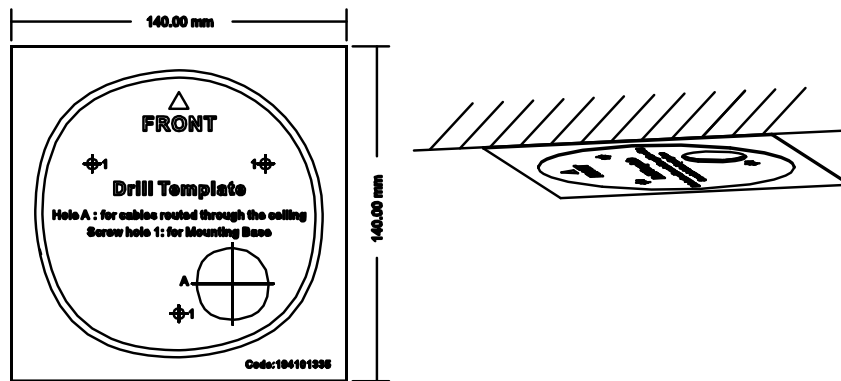

Figure 2-23 Attach the Drill Template
2. Drill a cable hole in the ceiling according to the circle A on the template if you want to route the cables through the ceiling, as shown in Figure 2-23.